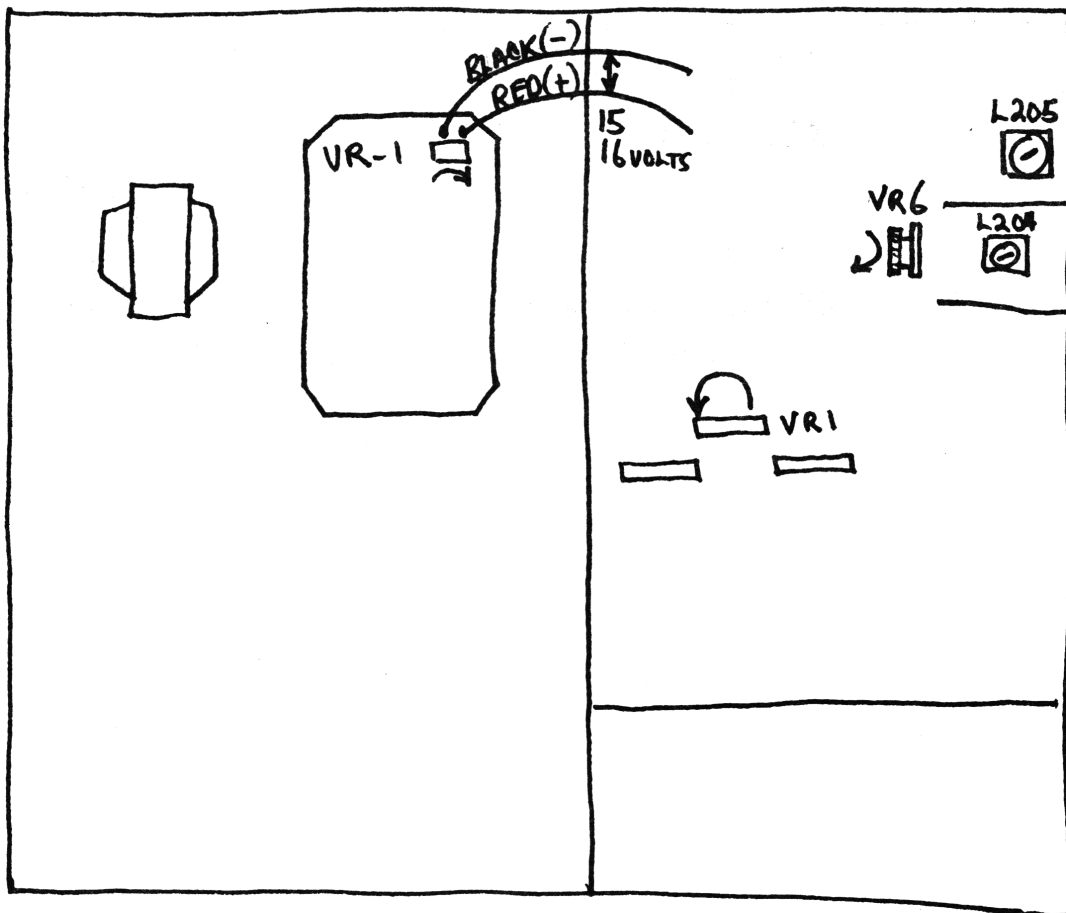

FIG. 5
1.1 Re-tune the coils, L204 and L205 and turn VR6 shown as fig. 5. Then you can get 5 to 6W.
Turn VR1 shown as fig. 5.